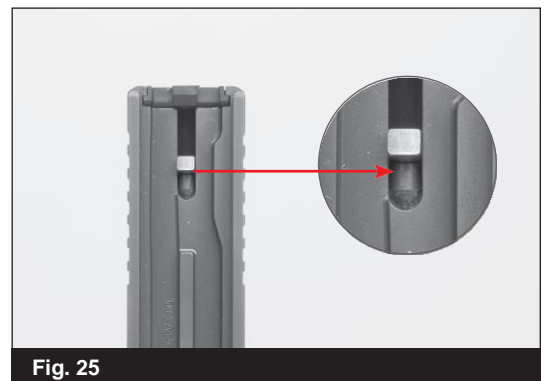

Fig. 25
- Insert the pin punch under the firing pin lug and on top of the firing pin spacer sleeve (black polymer visible just under the firing pin lug). (Fig. 25)